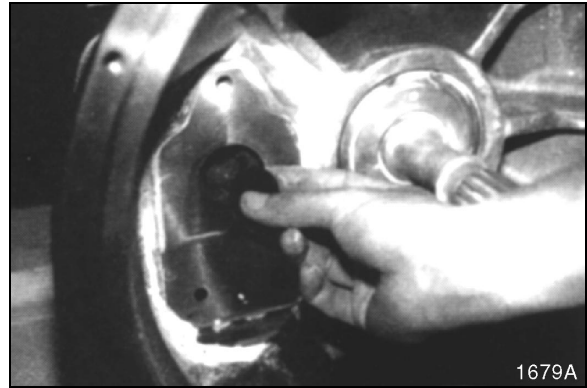

Figure 85
8. Attach coupling. See Figure 85.